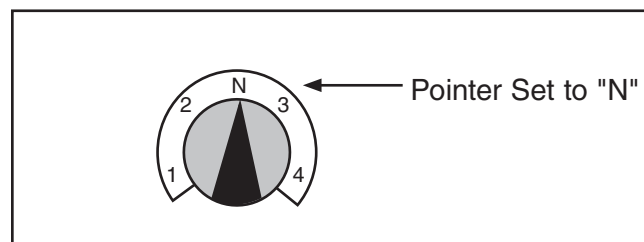

Figure 132. Gearbox dial set to "N" .
2. Unlock half-nut lever and turn top right gear-box dial to "N" (see **Figure 132**) so leadscrew can be rotated by hand.